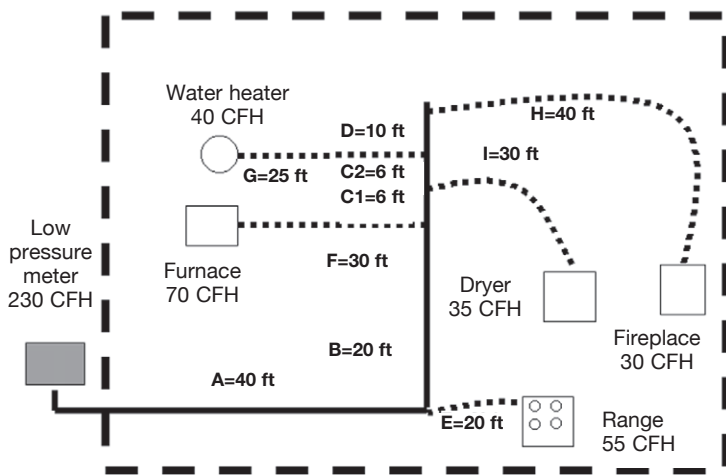
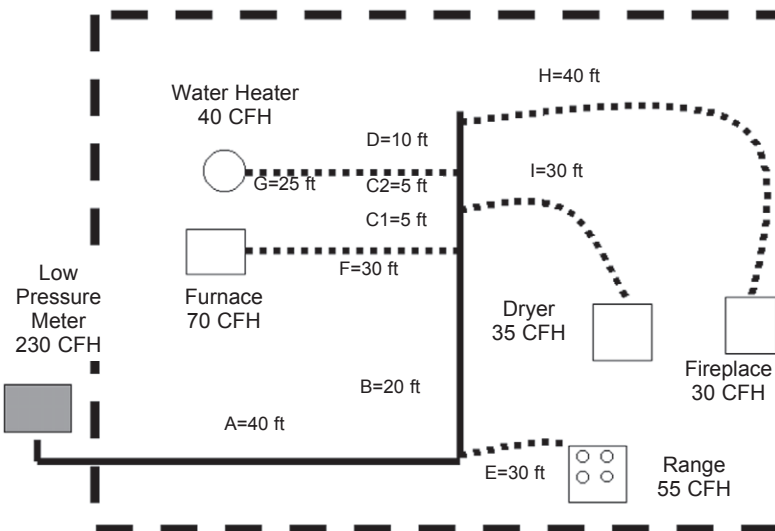

Figure: 3-6
Figure: 3-9
1. The system presented in Figure: 3-6 is a typical residence with 5 appliances. The supply pressure is 7 inches w.c. The allowable drop is 1.0 inch w.c. total.
- The system presented in Figure: 3-9 is identical to that in Figure: 3-6 a single-family installation with 5 appliances. Low pressure 6-7 inches and a pressure drop of 0.5 inches water column.